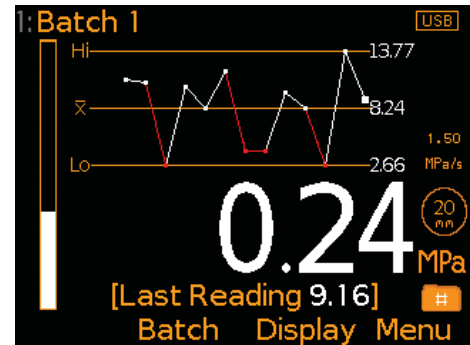

Fig. 3: Run Chart
- **Run Chart (Fig. 3);** A line trend graph of the last 20 measurements which is updated automatically after each reading.